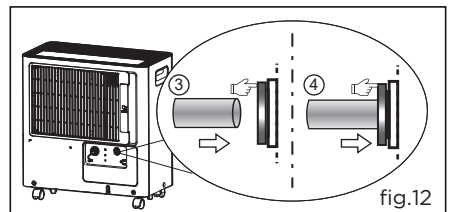

fig.12
- b. Keep pressing the ring while Inserting the drain hose onto the drainage joint, make sure it is connected well so that it is fully seated;(fig.12)